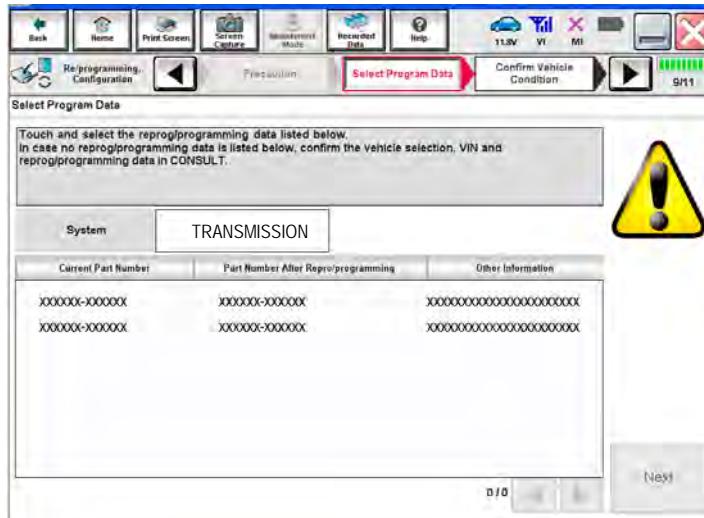

Figure 40
- If more than one new P/N is available, the screen in Figure 40 displays.